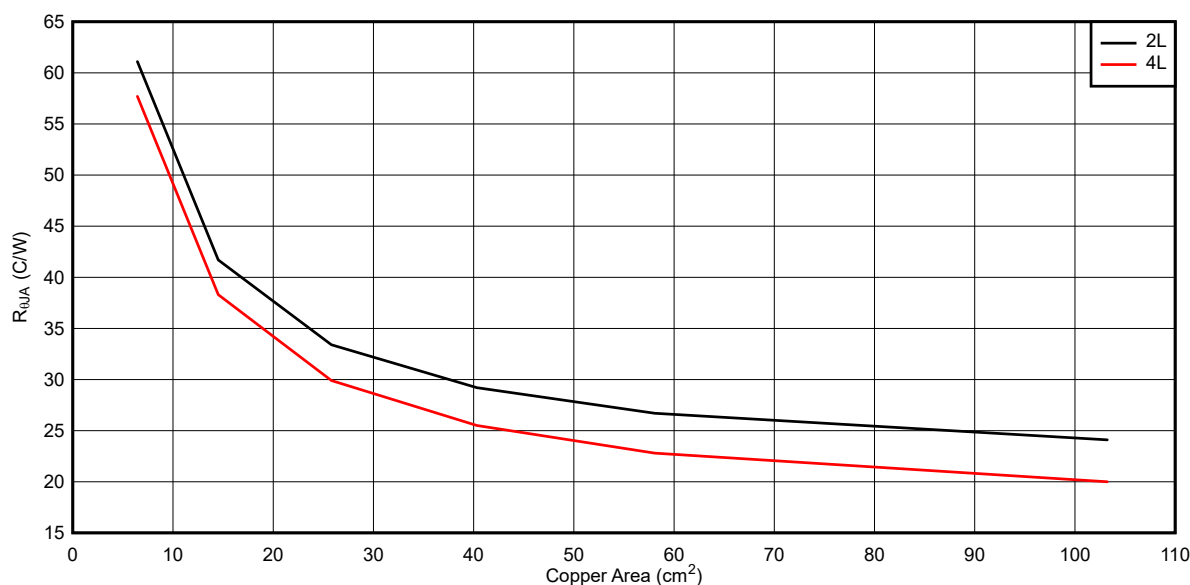
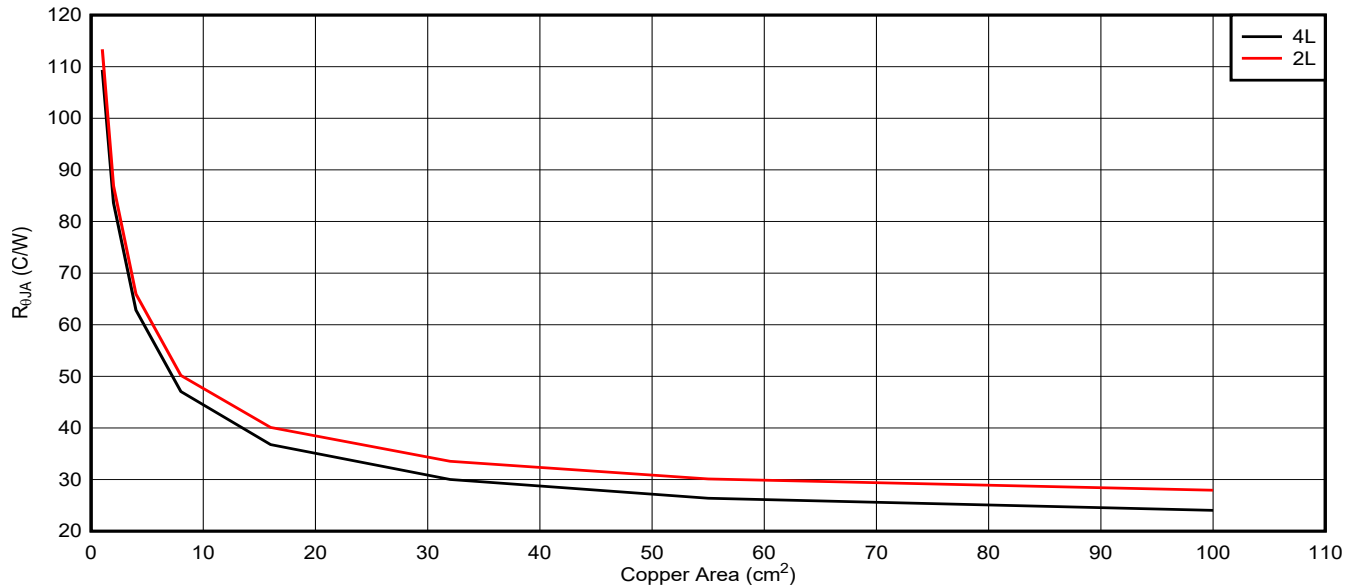
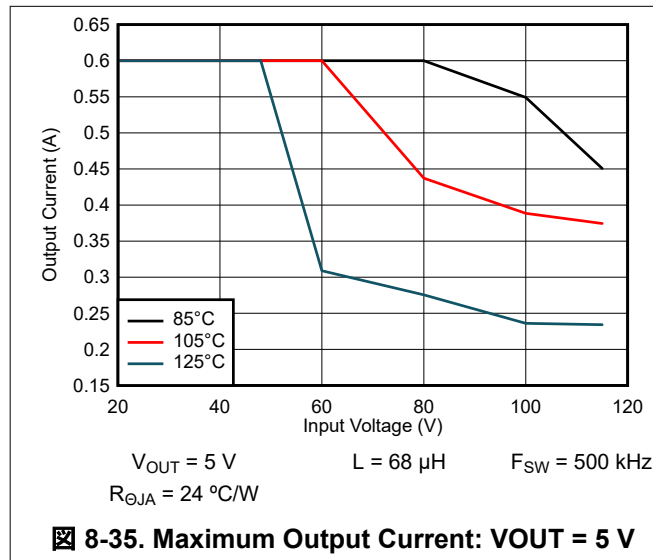
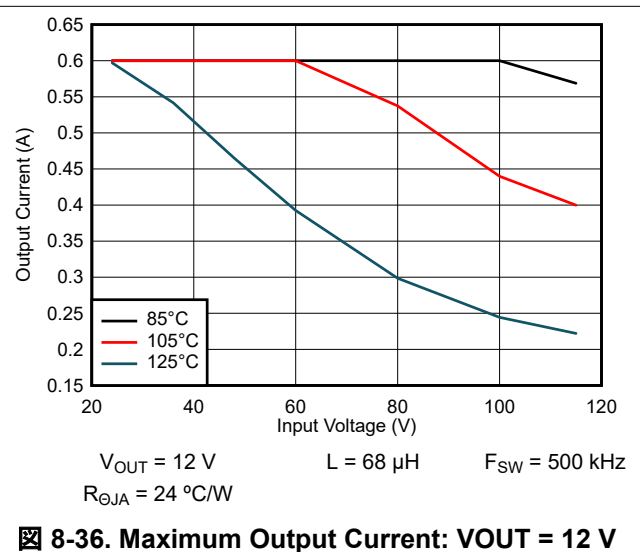

図 8-33. Typical $R_{\theta JA}$ Versus Copper Area for DDA package
図 8-34. Typical $R_{\theta JA}$ Versus Copper Area for NGU package
図 8-35. Maximum Output Current: $V_{OUT} = 5\text{ V}$
図 8-36. Maximum Output Current: $V_{OUT} = 12\text{ V}$
The LM516x features a die attach paddle, or "thermal pad" (EP), to provide a place to solder down to the PCB heat-sinking copper. This provides a good heat conduction path from the regulator junction to the heat sink and must be properly soldered to the PCB heat sink copper. Typical examples of $R_{\theta JA}$ can be found in Figure 8-33 and Figure 8-34. The copper area given in the graph is for each layer. The top and bottom layers are 2-oz copper each, while the inner layers are 1 oz.
The data in 図 8-35 and 図 8-36 can be used as a guide to determine the maximum output current for a given set of conditions. The particular conditions under which these graphs were taken are indicated in the notes below each graph.
Remember that the data given in 図 8-33 through 図 8-36 is for illustration purposes only, and the actual performance in any given application depends on all of the previously mentioned factors.